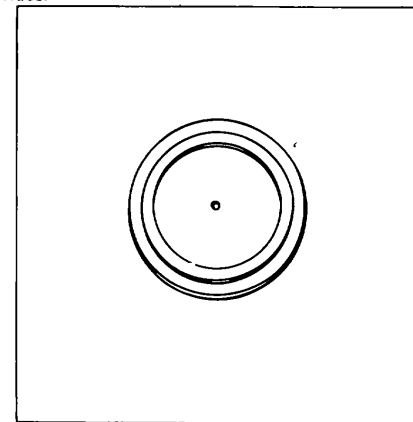

Figure 135.
10. With a push-pull motion, check for free play between bronze shoe and steel piston body. If any play can be felt, the piston must be discarded. Inspect bronze piston shoes (18). During normal service, a dulling of the running surface is to be expected. If large scratches, that can be felt with a fingernail, are present, see Fig.135, make several short passes over 500 grit emery paper on a lap surface.